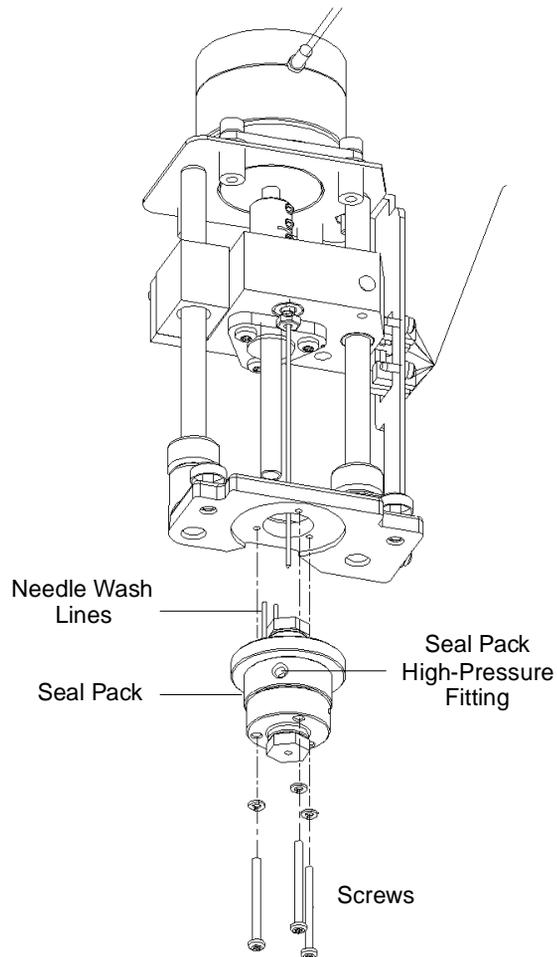

Figure 7-14 Removing the Seal Pack
6. Lift the injector assembly a few inches and remove the seal pack high-pressure fitting (see Figure 7-14).
1. Disconnect the tubes attached the needle wash lines (Figure 7-14).
2. Use a TORX T-10 wrench to remove the three mounting screws and washers that hold the seal pack to the base of the injector (Figure 7-14).
2. Reconnect the high-pressure seal pack inlet and outlet (red) fittings (Figure 7-14).
3. Connect the two needle wash lines (Figure 7-14). Connect the green line to the upper seal wash body, and the yellow line to the lower seal wash body.
4. Insert the new seal pack into the base of the injector (Figure 7-14).